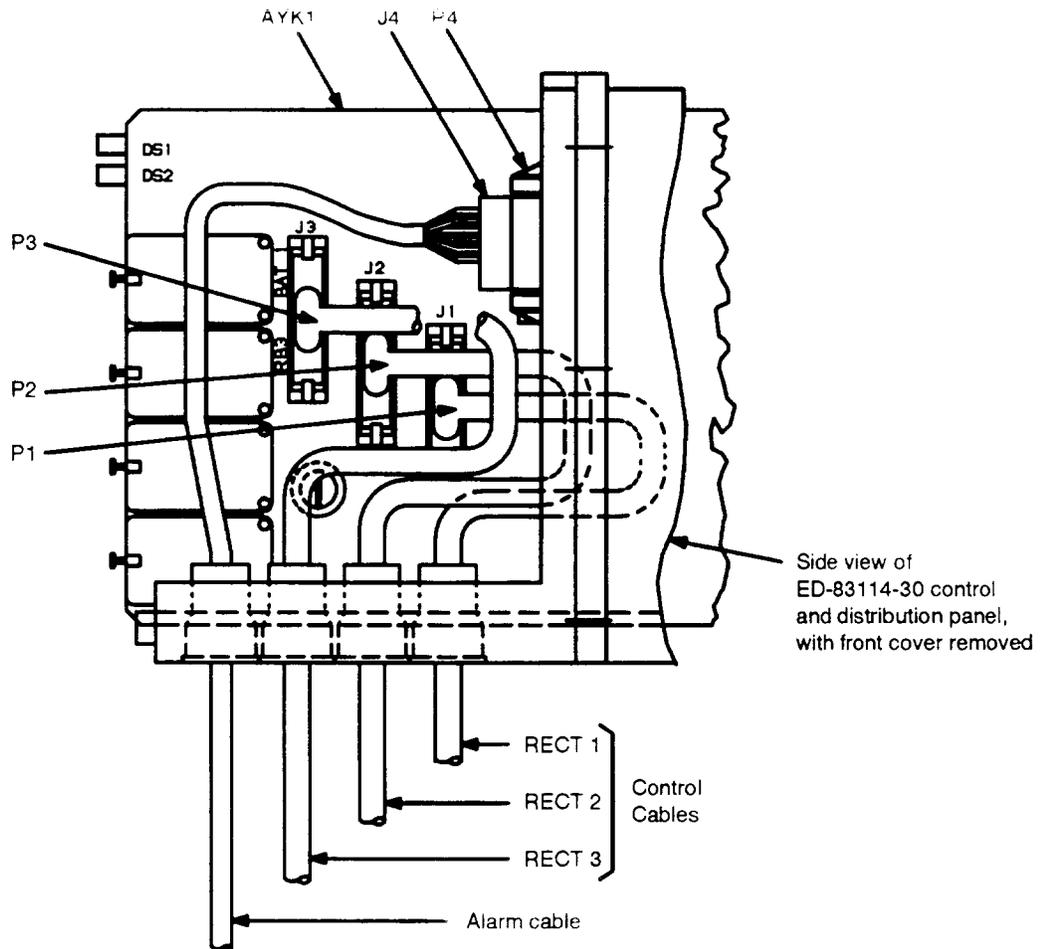

Figure 1 — Location of Rectifier Cable Plugs at AYK1 Circuit Pack
24. At **AYK1** circuit pack, disconnect plug **P1 (RB1)**, **P2 (RB2)**, or **P3 (RB3)** associated with tripped breaker (Figure 1).